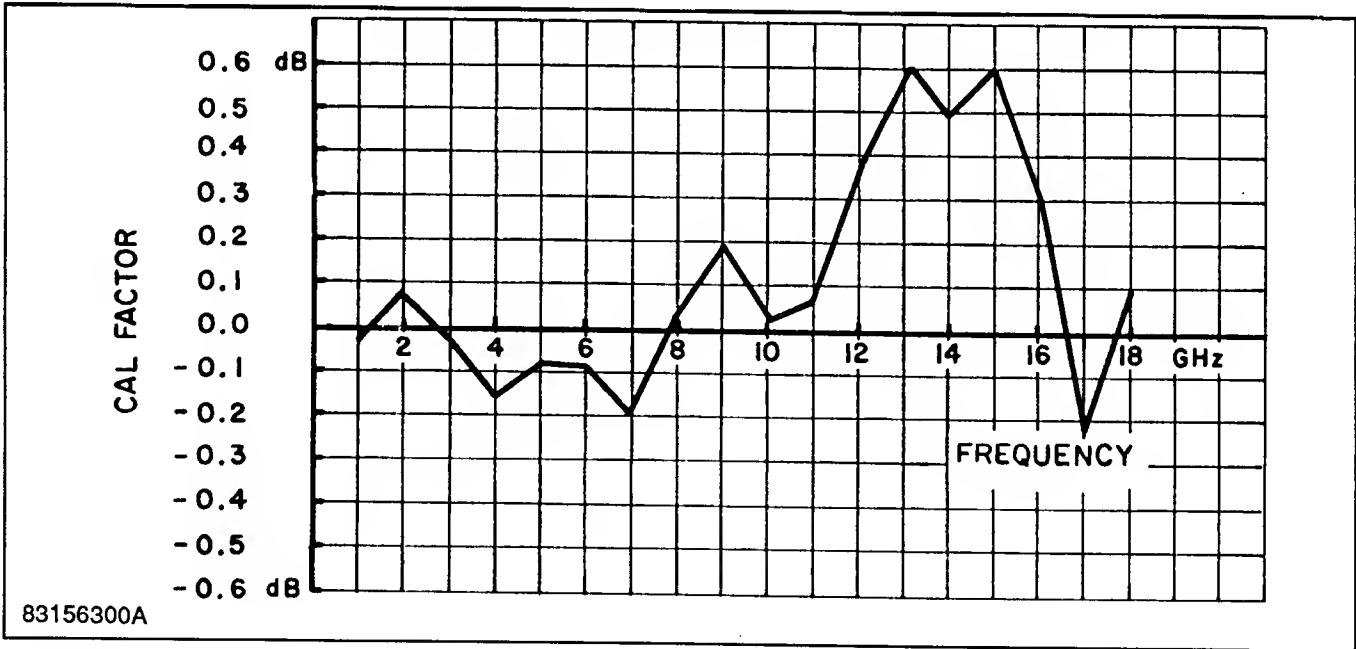

Figure 4-2. Typical High Frequency Sensor Calibration.
shown in Figure 4-2. Calibration points covering the entire sensor frequency range are supplied with each sensor. Below 1 GHz, the sensor response is flat, and frequency calibration points need not be entered.
**4-8.** Figure 4-2 shows data for 17 points; however, space for up to 36 points for each of four sensors is provided in non-volatile RAM. Frequency calibration points need not be in equal frequency increments; however, the entry of data must be done in ascending order of frequency. Generally, for both diode and thermal sensors, a calibration factor of 0 dB is entered at 0.00 GHz so that the instrument may be operated below the first data point. During measurement, frequency calibration points are linearly interpolated and, if a measurement frequency is entered that is outside the range of the sensor selected for the measurement, an error message is displayed.